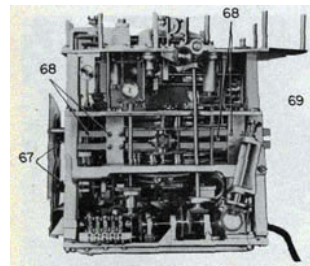
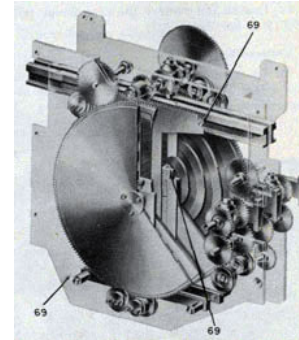

Figure 118-Removal of Angle Solvers
Figure 120-Removal of Supporting Plate from Front Angle Solver.
68. Remove "T" racks by removing eight screws holding guide rails. Slide the guide rails out and withdraw "T" racks. See figures 118 and 119.
69. Remove plate supporting the front angle solver assembly. See figure 118. Then, check the guide rollers for free movement and fit of cam follower in cam groove. This follower should move freely along the entire length of the groove. Maximum clearance of cam in groove should not exceed 0.0005 inches. Check the action of the sliding member in the radial slot gear. It should slide freely without lost motion. See figure 120.